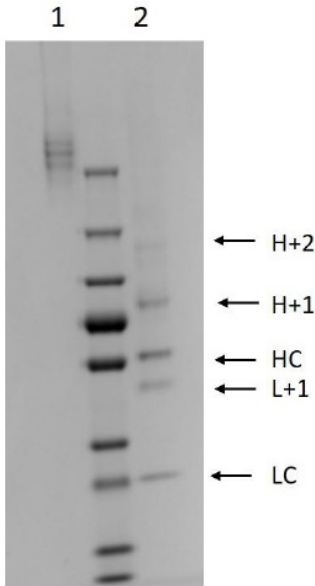

Fig 5.
12.11 Finally, with 10 μg scale conjugation, one would probably be reluctant to run more than 1 μL of conjugate routinely on gels. A typical profile for 1 μL (from an 11 μL scale reaction) under both non-reducing and reducing conditions is shown below in Figure 5. You may prefer to run 1 μL of sample in just one of these conditions.